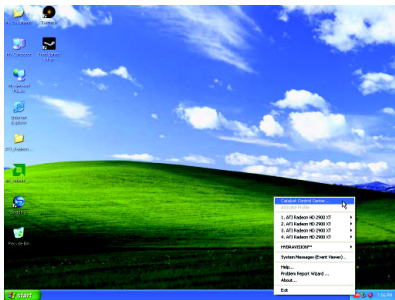
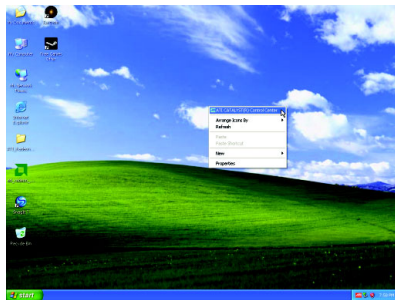

Fig. 1
Fig. 2
After installation of the display drivers, you will find an **ATI CATALYST® Control Center** icon  on the taskbar's status area. The **ATI CATALYST® Control Center** is used to configure all your graphics card settings. Right-click the icon to enter the **ATI CATALYST® Control Center** (refer to Fig. 1). Or you can right-click on the desktop to select **ATI CATALYST(R) Control Center** tab and press **ATI CATALYST(R) Control Center** button (refer to Fig. 2).